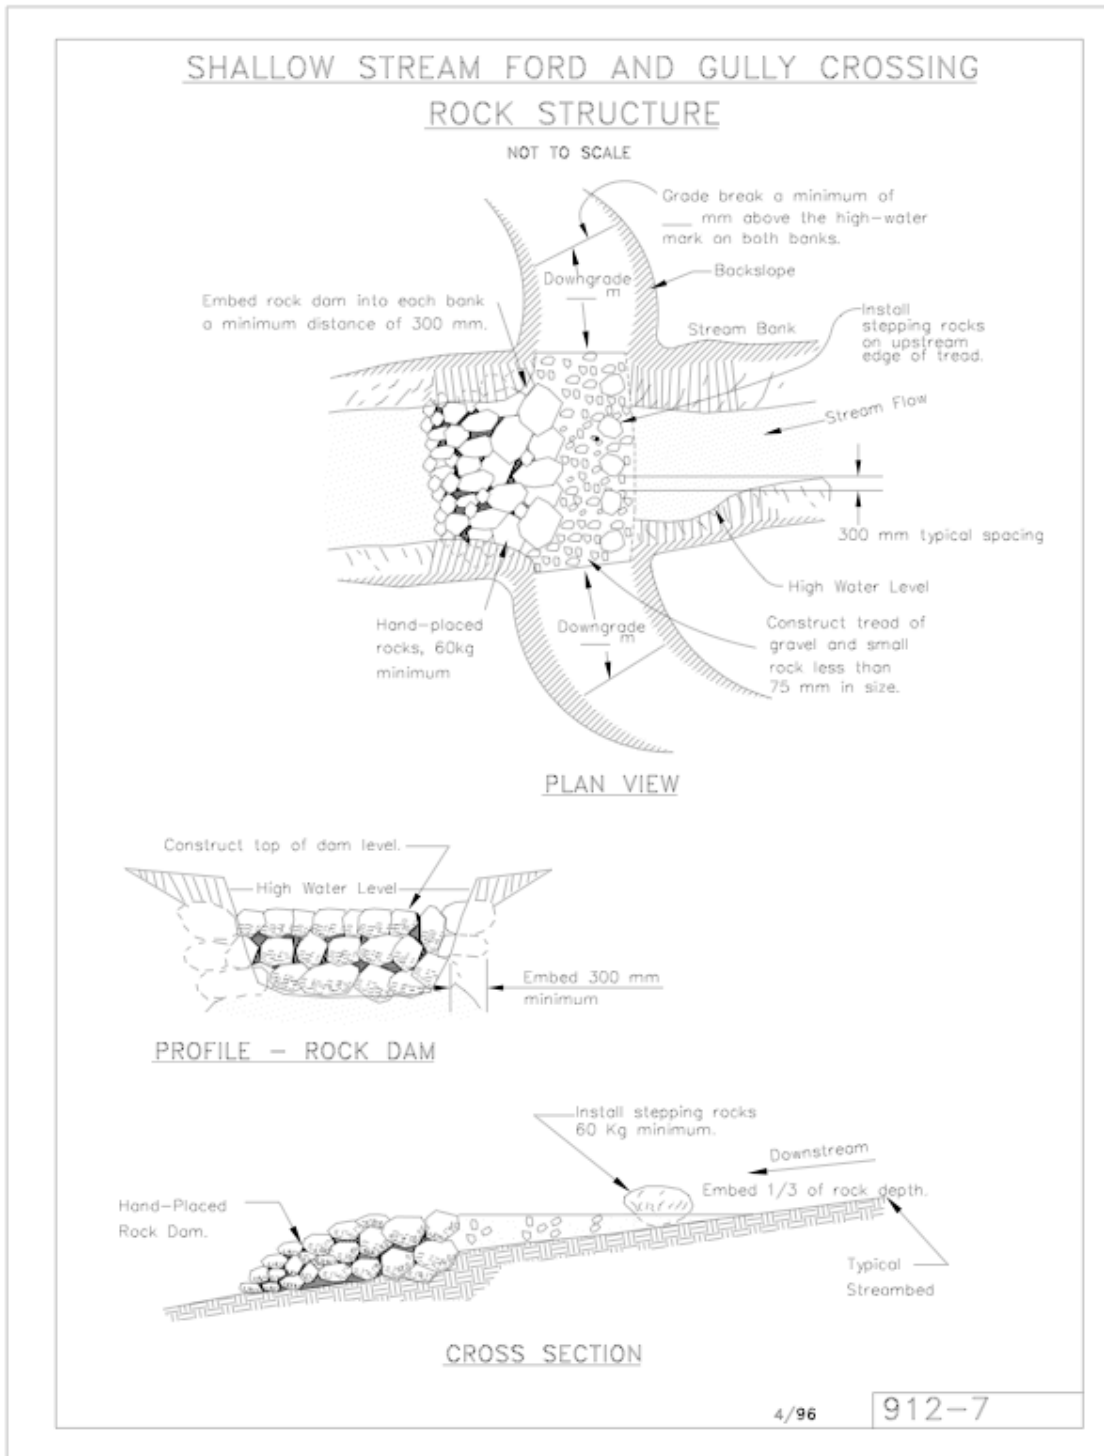

Figure 10: Rock Armored Ford
3.8 Rock Armored Ford (figure 10)